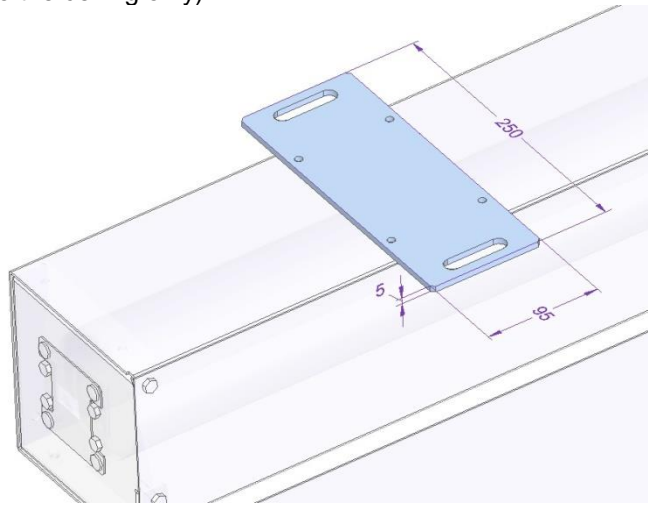

Fig. 7. Suspension bracket types
1. Mount M10 or M12 threaded rods of suitable length in the structural component to match the arrangement of brackets (fig. 7).